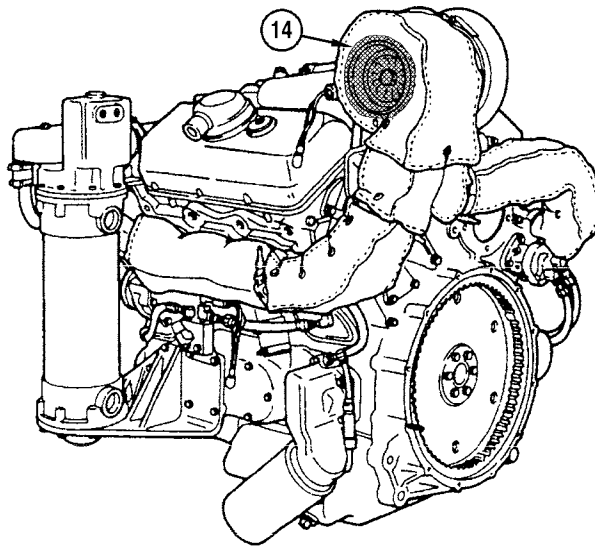

Figure 4-4. Placement of Turbocharger Inlet Shield
10. Install turbocharger inlet shield (14) (2351171ASH—Detroit Diesel; NSN 4910-01-127-7959) on engine turbocharger inlet or any screen that prevents ingestion of debris and protects fingers. If air flow is restricted, testing results may be skewed. If another shield is used, stall check results may be affected. Also, excessive black smoke will occur. See Figure 4-4.